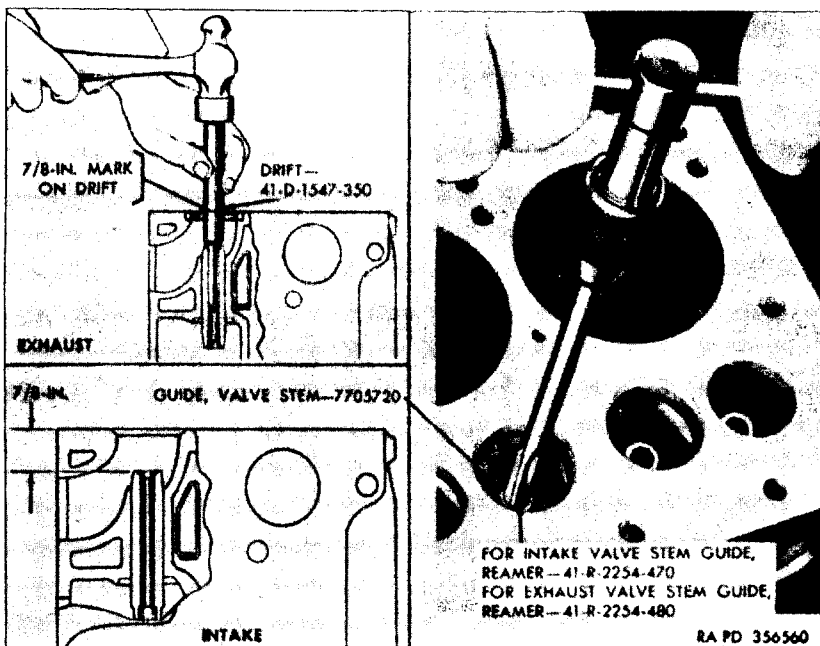

Figure 67. Installing and reaming valve stem guides.
g. Install Valve Stem Guides (fig. 67). Wipe the exterior of the valve stem guide clean and blow out opening in the cylinder block with compressed air.